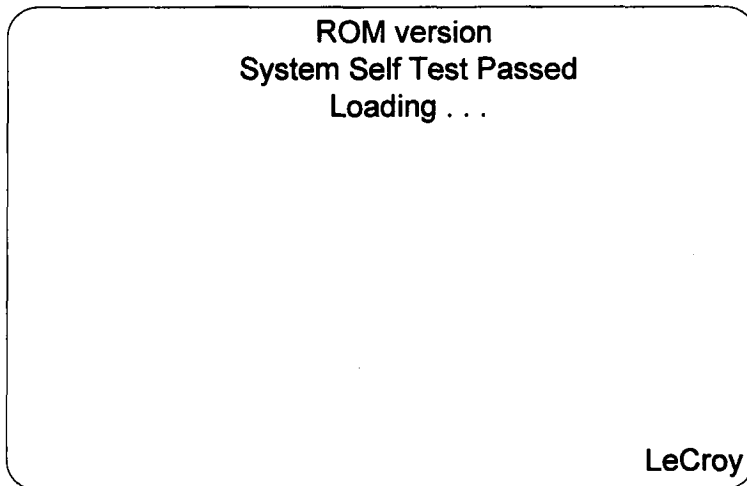

Figure 2
1. Press the Install softkey. The Install Program Main screen will appear. See Figure 2.
2. Press the Start softkey to begin installation of new software. While the software is loading the following message will appear on the screen. See Figure 2.